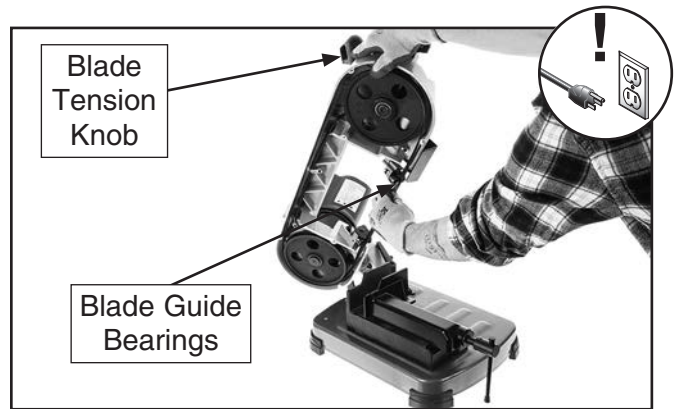

Figure 15. Headstock opened for blade removal.
7. Slip blade off wheels, then out from between blade guide bearings (see **Figure 15**).
8. Install new blade between left and right blade guide bearings, as shown in **Figure 15**.